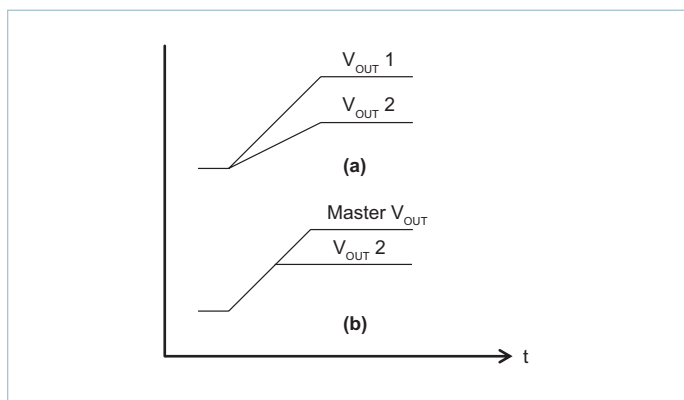

Figure 28 — PI33xx-x1 tracking methods
There is typically either proportional or direct tracking implemented within a design. For proportional tracking between several regulators at startup, simply connect all devices’ TRK pins together. This type of tracking will force all connected regulators to startup and reach regulation at the same time (see Figure 28(a)).
All connected regulators’ soft-start slopes will track with this method. Direct tracking timing is demonstrated in Figure 28(b). All tracking regulators should have their Enable (EN) pins connected together to work properly.